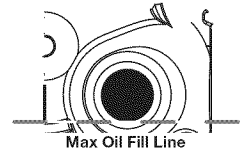
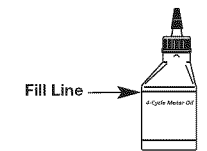

Fig. 24
Fig. 28
- Look into the oil fill hole, use a flashlight if needed. The oil should be just touching the inner most thread (Fig. 24).
- If the oil level is not touching the inner most thread on the oil fill hole, add a small amount of oil to the oil fill hole and recheck (Fig. 24). Repeat this procedure until the oil level reaches the inner most thread on the oil fill hole.
NOTE: Use the bottle and spout saved from initial use to measure the correct amount of oil. The top of the label on the bottle measures approximately 3.04 ounces (90 ml) (Fig. 28). Check the level, See *Checking the Oil Level*. If the level is low, add a small amount of oil and recheck. Do not overfill (Fig. 24).